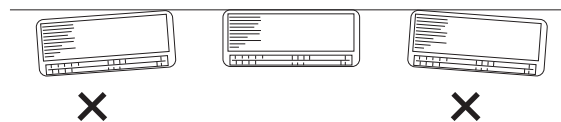

**Fig. 13a**
- (1) Attach the rear panel to the wall with the 8 screws provided. (Fig. 13a or 13b)